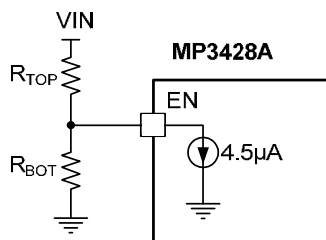

Figure 2: V_{IN} UVLO Program
The MP3428A features a programmable UVLO hysteresis. When powering up, EN sinks a 4.5μA current from the upper resistor, R_{TOP} (see Figure 2). V_{IN} must increase in voltage to overcome the current sink. The V_{IN} start-up threshold is determined by Equation (2):